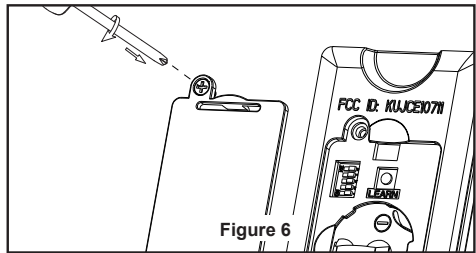

Figure 6
- ☐ **6.** Assemble the LED assembly to the light kit using the two key slots. Replace the removed screw from Step 3 and secure all three screws. (Figure 6)
- ☐ 6. Replace battery cover on the remote control and secure with the previously removed screw. (Figure 6)